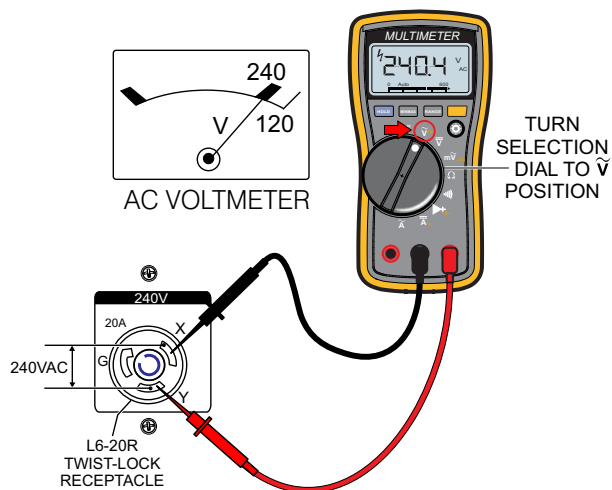

Figure 29. 240V L6-20R Receptacle
14. Read voltmeter on front panel of generator (Figure 29) and verify that 240 VAC is displayed. Using an external voltmeter as shown in Figure 29, verify that 240 VAC is present at the 240V L6-20R twist-lock receptacle.